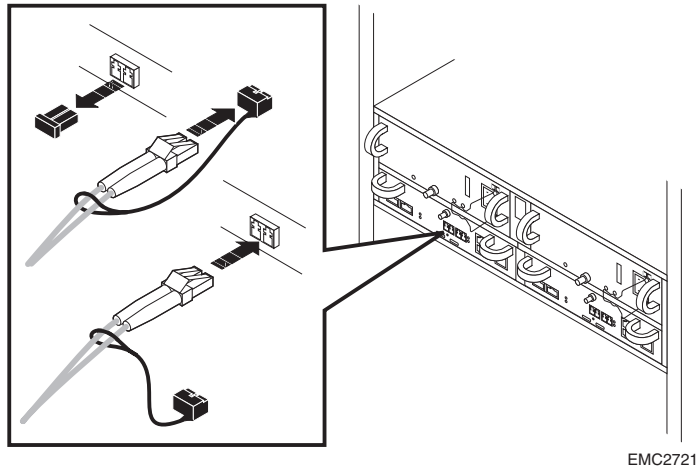

Figure 2-10 Attaching Fibre-Optic (Front-End) Cables to the SP
1. Remove the protective covers from each optical connector and each optical cable, as shown in Figure 2-10.
2. Plug the cable into a host port on the SP. See Figure 2-10.